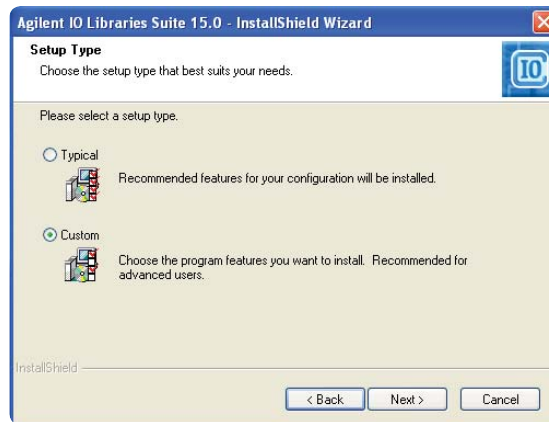
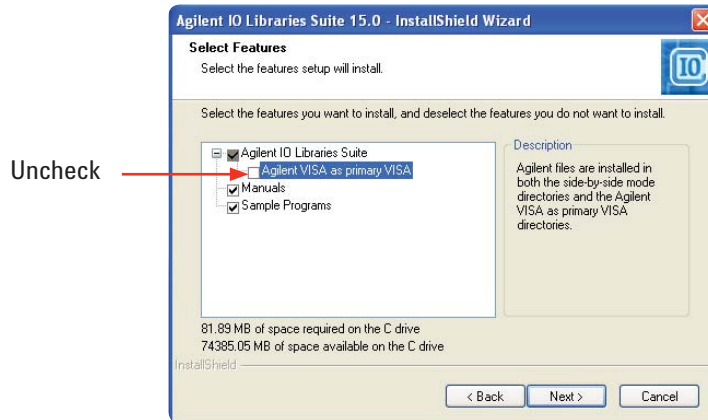

Figure 4. Custom setup for Agilent IO libraries Suite.
Figure 5. Enabling side-by-side mode in Custom setup
b) Alternatively, you can choose **Custom** setup for the installation, then select side-by-side mode. Complete the installation for IO libraries before Step 3. See Figure 4 and Figure 5.